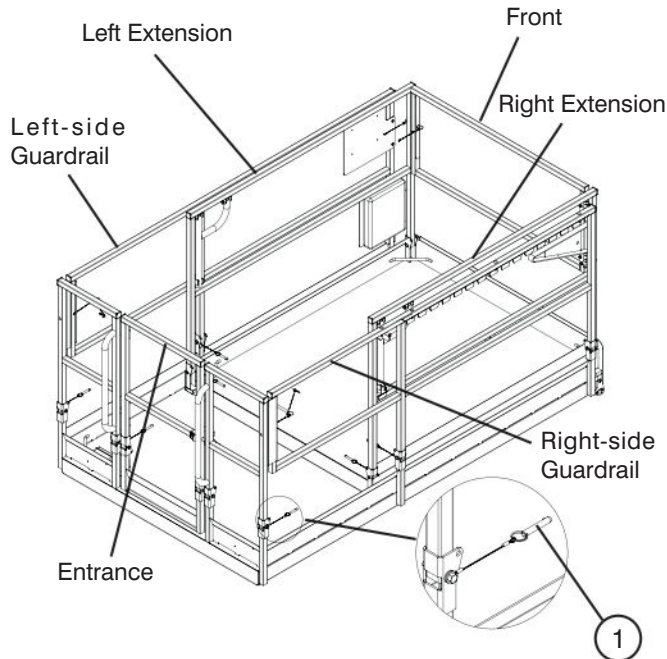

Figure 2-19a. Folding Guardrail System
7. Fold down guardrails in the following order: front, right extension, right-side, left extension, left-side and entrance (refer to Figure 2-19a).